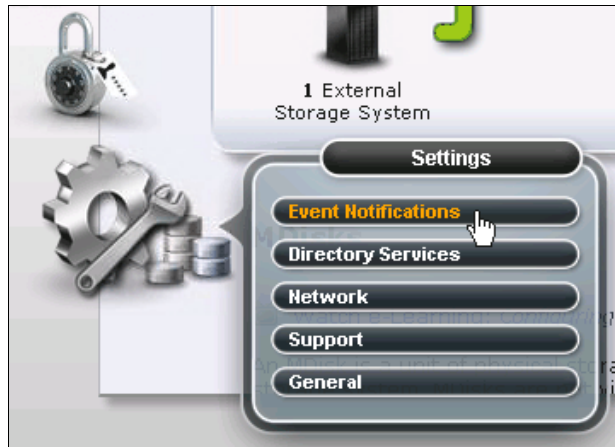

Figure 13-32 Configuration of event notifications
1. Prepare your contact information that you want to use for the email notification and verify the accuracy of the data. From the dynamic menu, select **Setting** → **Event Notifications** (Figure 13-32 on page 483).